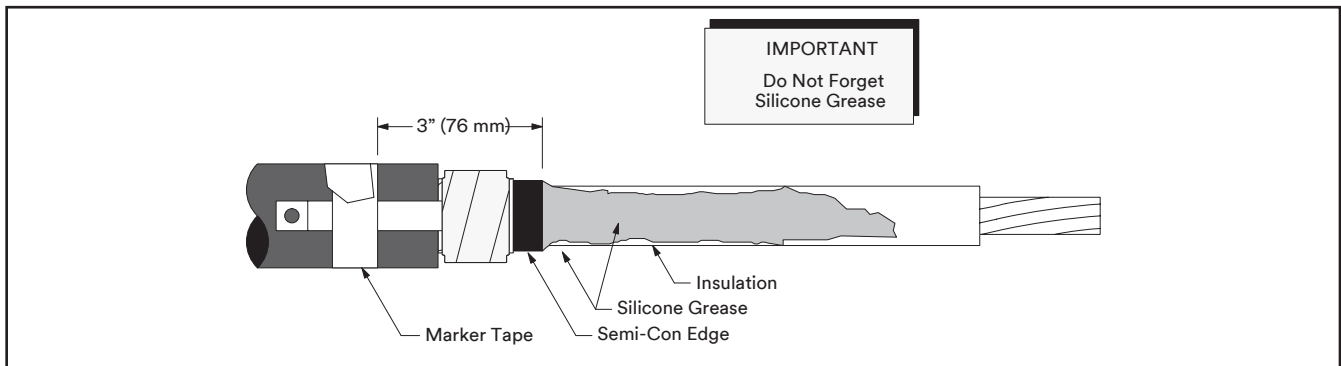

Figure 4
4.1 Place a marker tape 3" (76 mm) back from the semi-con step using vinyl tape (Figure 4).
4.2 Apply a liberal coating of silicone grease over the edge of the semi-con step (Figure 4).